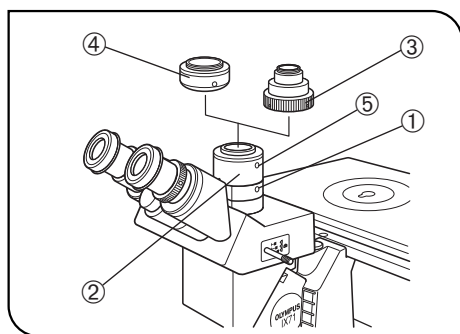

Fig. 74
(Fig. 74)
1. Using the Allen screwdriver, loosen the clamping screw ① on the trinocular observation tube H.
2. Fit the IX-TVAD TV adapter ② into the straight photo tube and tighten the clamping screw ①. (Fig. 74)
3. Firmly screw the U-CMT C-mount adapter ③ or U-FMT F-mount adapter ④ into the IX-TVAD TV adapter ②. (Fig. 74)
2. Lightly loosen the clamping screws ① and ⑤. (Fig. 74)
3. While observing the monitor image and holding the U-CMT ③ or U-FMT ④ stationary, rotate the IX-TVAD ②. Tighten the clamping screws ① and ⑤ when the monitor image is in focus. (Fig. 74)